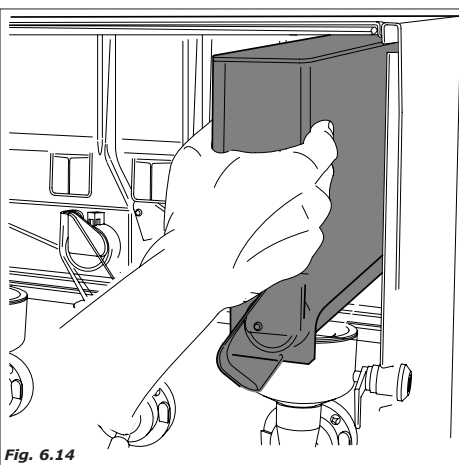

Fig. 6.14
- remove all the product containers from the distributor (fig. 6.14).